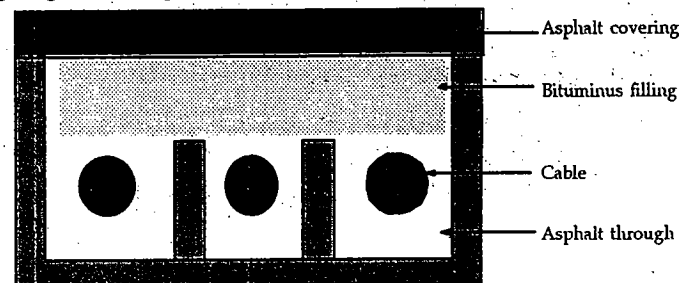

Fig.3.13 Solid system using Asphalt through.
**3) Solid system :** In this system of cable laying, cable is laid in a throughs or open pipe placed in earth along the cable route. The throughs is made up of treated wood or stone core or cast iron. After laying the cable throughing the filled with asphalt or bituminous and then covered. This method of laying cable is rarely used now a days as it is more expensive and it requires skilled labour. The current capacity of cable in this system is less, due to poor heat dissipation facilities. Fig. 3.13 show section of solid system of cable laying. Cables laid in this manner are usually, plain lead covered, as the throughing affords good mechanical protection.